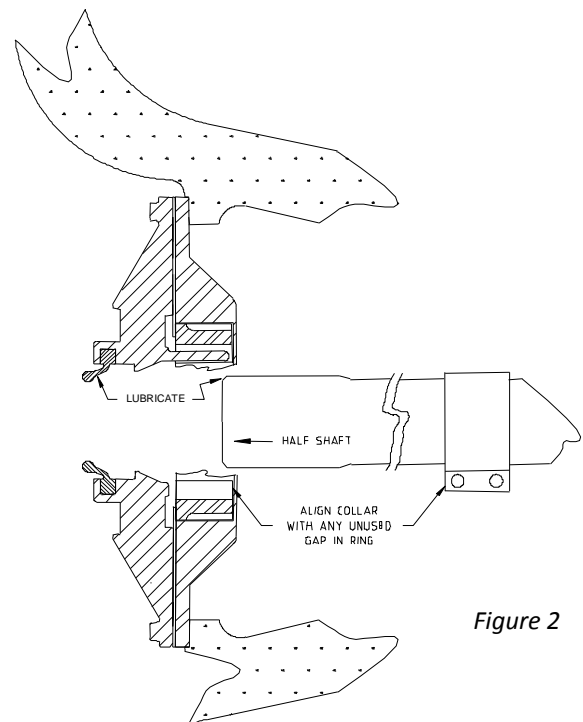

Figure 2
15. Insert the half shaft ensuring that the drive collar clamp is aligned with a notch in the traction aid ring (8W8744). Note that when an isolation seal is fitted there are two less useable notches in the traction aid ring. See figure 2.